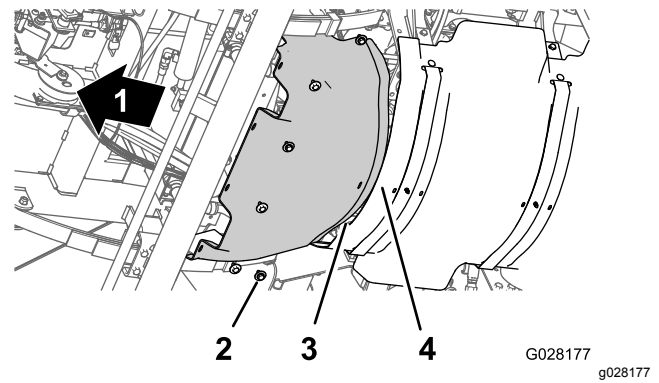

Figure 49
2. Align the holes in the forward heat shield with the threaded holes in the chassis (Figure 49).
3. Assemble the forward heat shield to the machine with the 6 hex-head bolts and 6 washers (Figure 49) that you removed in step 4 of Removing the Forward Heat Shield (page 43).
1. Align the rear flange of the forward heat shield over the forward flange of the rear heat shield (Figure 49).